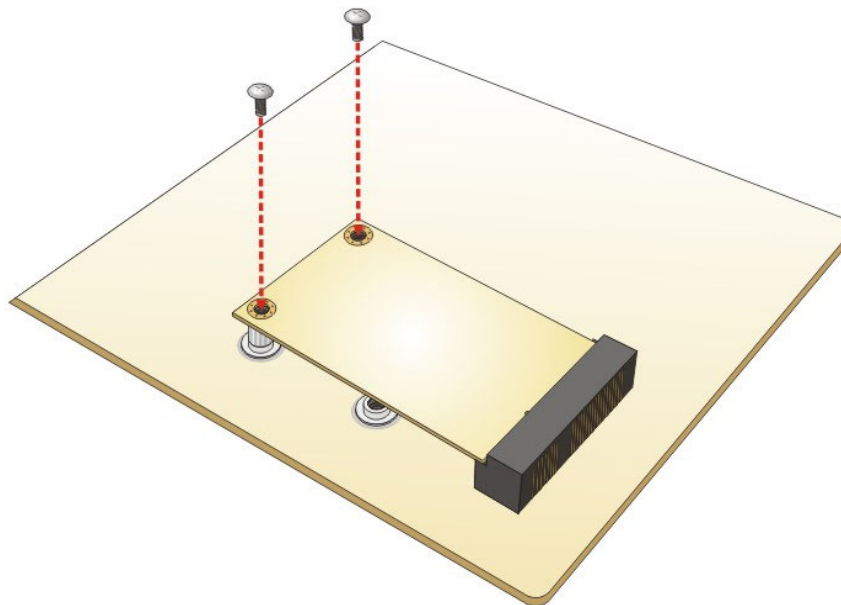

Figure 3-15: Securing the PCIe Mini Card
Step 5: Secure the PCIe Mini card. Secure the PCIe Mini card with the retention screws previously removed (Figure 3-15).